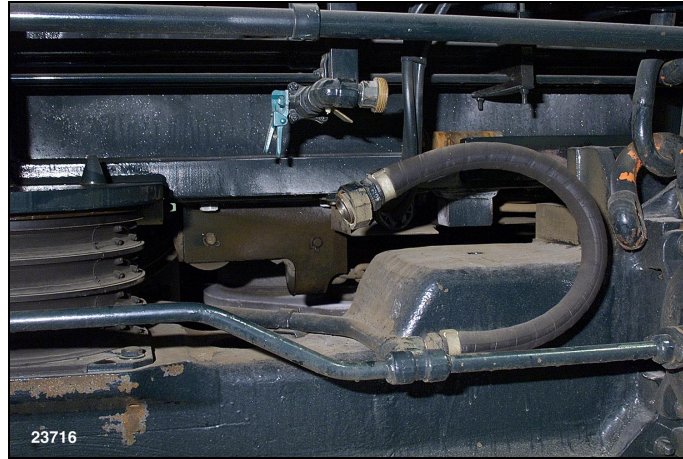

Figure 22 – Typical Brake Cylinder Air Piping
3. Disconnect brake piping; Figure 22, handbrake connections, sanding equipment, and flange lube equipment (if equipped). Secure loose parts and fittings.